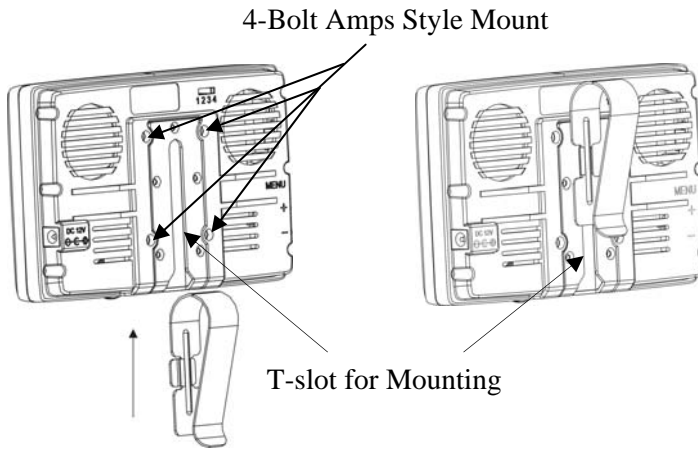

Figure 2 (Mounting the Monitor)
- a) Slide the Visor Clip all the way onto the T-slot on the back of the monitor, as shown in figure 2.